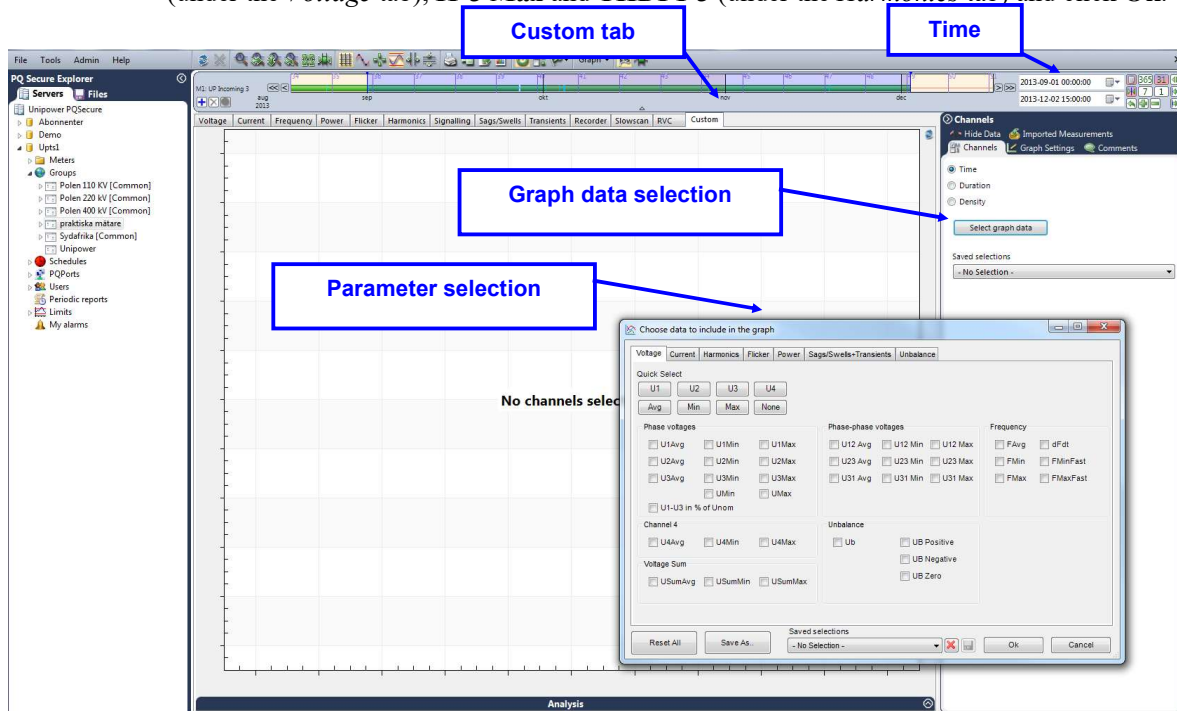

Figure 9
- Right-click on the selected file(s) and select **Graph evaluation**, the window presented in Figure 9 will now appear. Select the **Custom** tab.